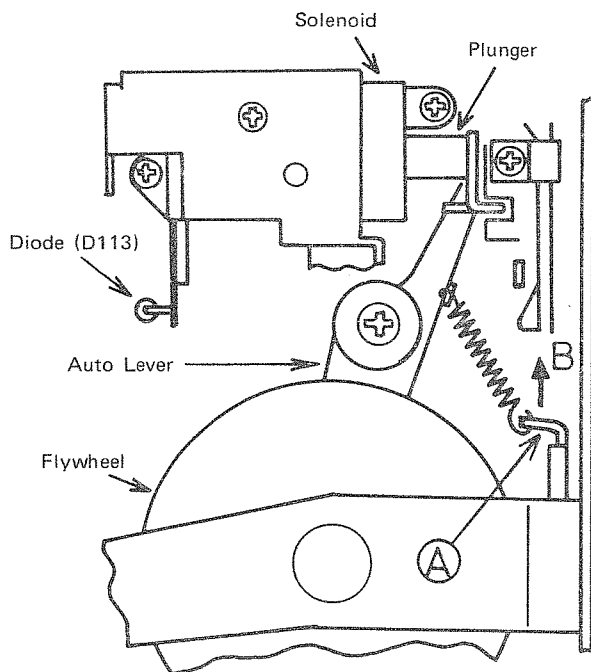

Fig. 23
- e. If the solenoid is lack of suction ability, bend the part A of adjusting arm to the B direction as shown in Fig. 23.